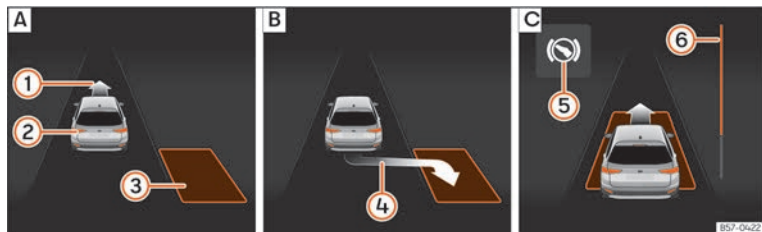
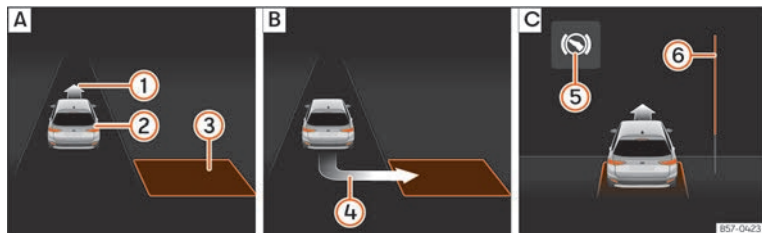

Fig. 172 On the instrument panel display: parallel parking. **[A]** Finding a parking space. **[B]** Parking position. **[C]** Manoeuvring.
Fig. 173 On the instrument panel display: angle parking. **[A]** Finding a parking space. **[B]** Parking position. **[C]** Manoeuvring.
- Look at the display on the instrument panel to see if the space has been detected as “appropriate” and if the correct position for parking has been reached »» Fig. 172 [B] or »» Fig. 173 [B]. The space is considered
- Reverse until the continuous ParkPilot signal sounds; **OR:** reverse until the indication to move forward appears on the instrument panel display »» Fig. 172 [C] or »» Fig. 173 [C]; **OR:** reverse until the **Park Assist finished** message appears on the instrument panel display. The progress bar [6] indicates the distance to cover »» page 244.
- Move forward until the continuous ParkPilot signal sounds; **OR:** move forward until the reverse indication appears on the instrument panel display. The Park Assist system steers the vehicle forward and back until it centres it in the space »» Fig. 172 [C] or »» Fig. 173 [C].
»» Fig. 172 [6] and »» Fig. 173 [6] on the screen of the instrument panel displays the relative distance to be covered. The greater the distance, the fuller the progress bar. When driving forward, the content of the progress bar decreases upwards, and when reversing, it decreases downwards.